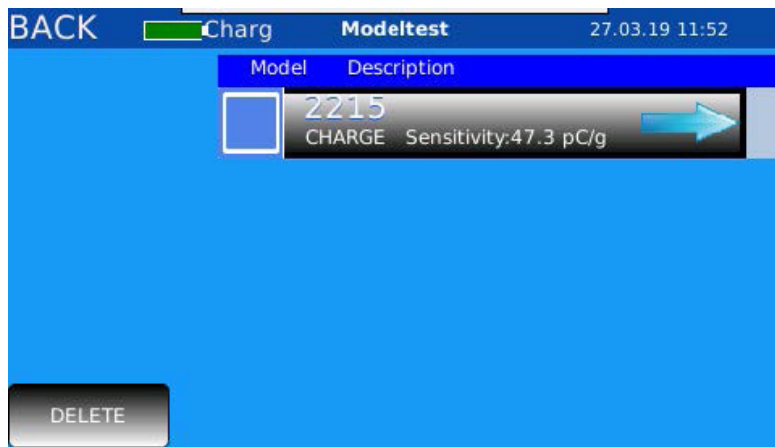

Figure 98. Select the imported sensor
9. Imported sensors belonging to the category and manufacturer selected will appear. Select the check box to the left of a sensor to choose it for testing (Figure 98).